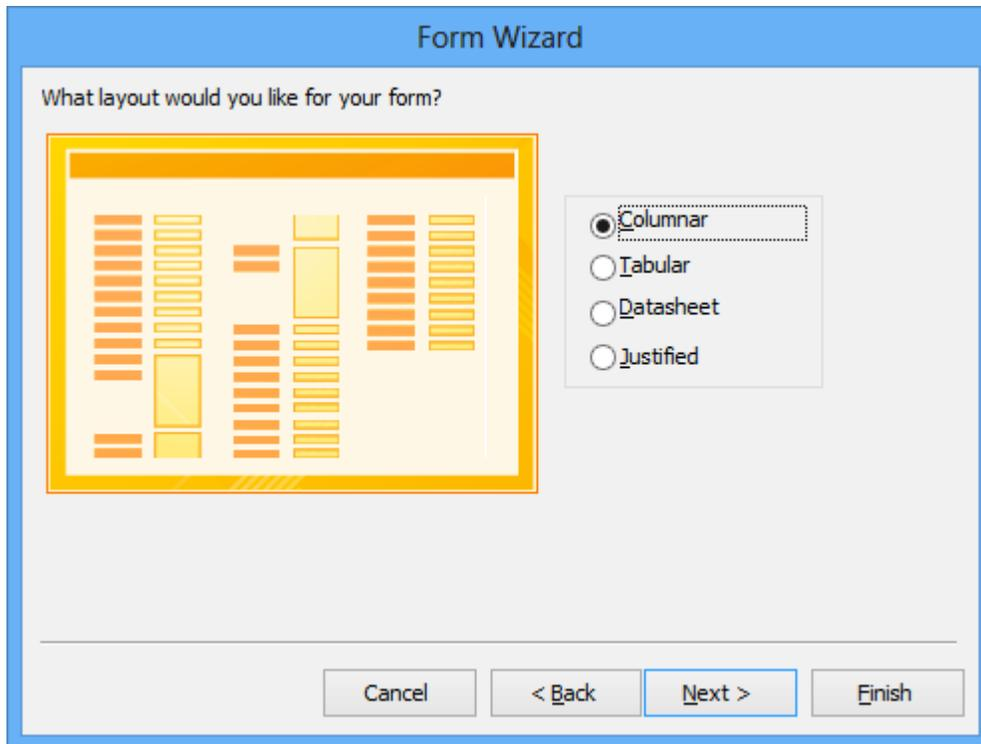

Figure 6: Window to Select the Form Layout
11. Choose Layout Style: Select “Columnar” in the next window (Figure 6) and click **Next**.